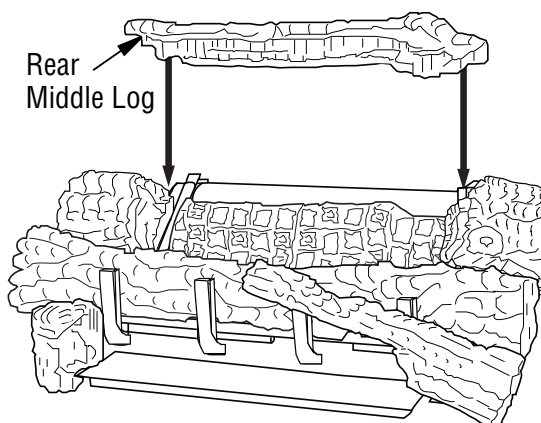

Figure 36 - Installing Rear Middle Log
- The rear middle log should fit between the ramp log and the rear burner. The left and right middle logs have recessed areas for the rear middle log to sit into (See **Figure 36**). Be careful not to push the rear burner out of position while installing this log.